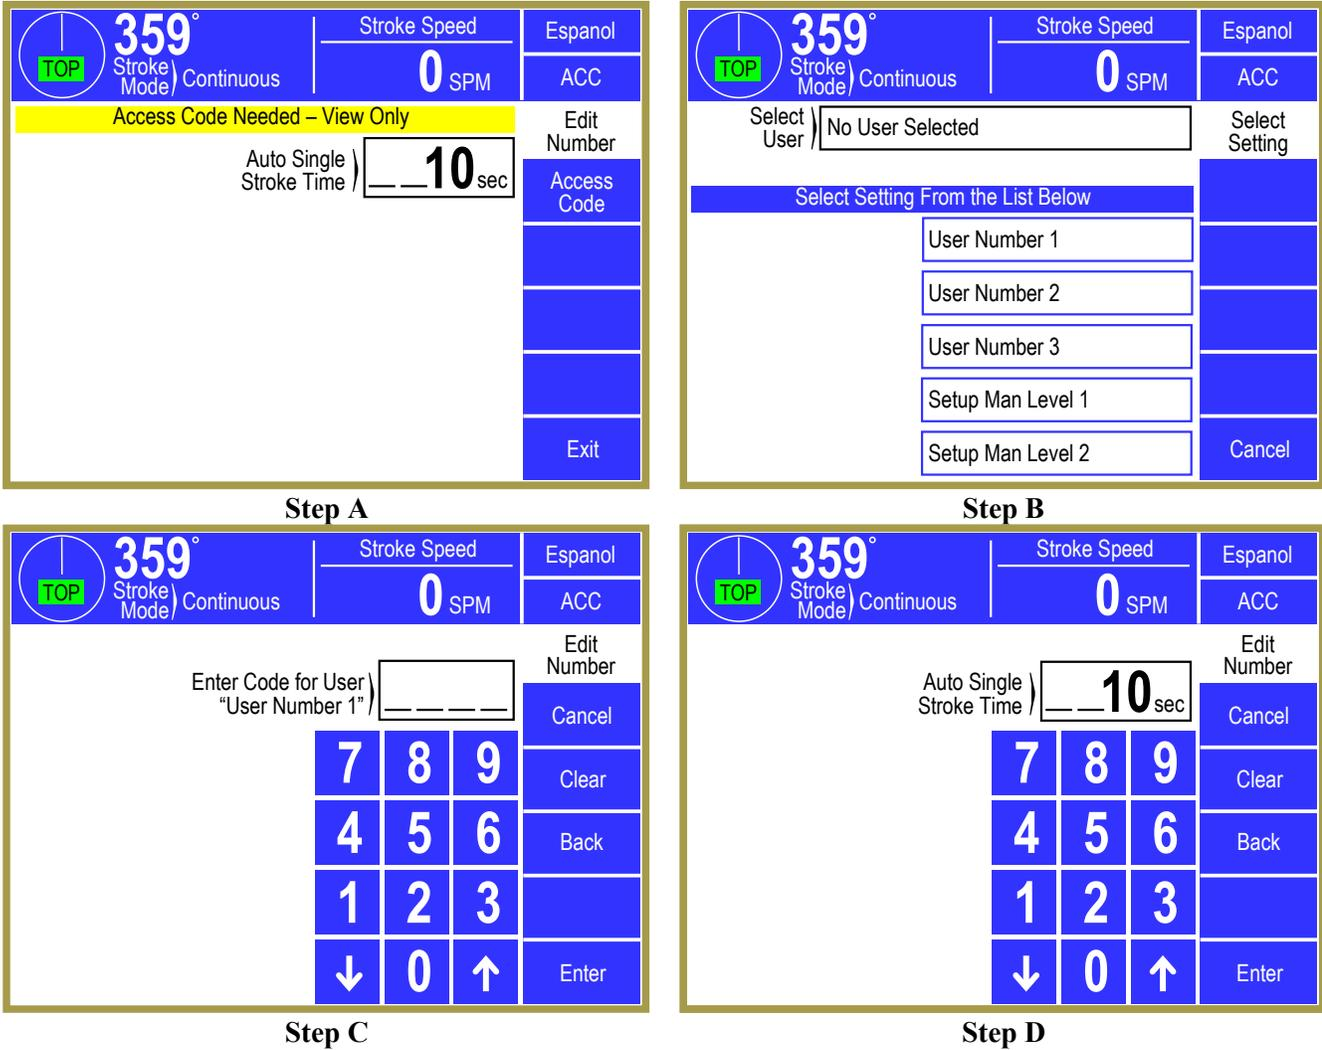

Figure 31: Example Password Entry Sequence
Figure 31 displays an example password entry sequence. This example shows the steps necessary to change a numeric value but is typical for password entry for all restricted items.
**Step A:** Select the restricted item. In the example shown in “Step A” of Figure 31 the restricted item is the Auto Single Stroke Time. Once the parameter is selected, if restricted the display will prompt that an access code is required. The user should press the **Access Code** key.
**Step B:** A list of users that have access to this restricted item will appear. In “Step B” of Figure 31, 5 of the 16 possible users have access to this restricted parameter. The system may have several more users, but the 5 users listed on the screen are the only users that have access to Auto Single Stroke time. The user must select his user name (even if there is only one user name displayed).
**Step C:** The display will show the selected user name and request the user password as shown in “Step C” of Figure 31. The user must enter the correct password and then press the **Enter** key.